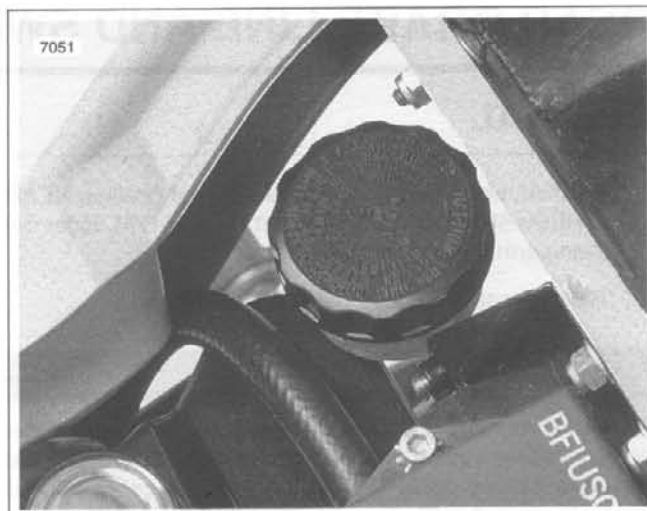

Figure 2-87. Rear Reservoir
5. See Figure 2-87. Verify proper fluid level in reservoir.